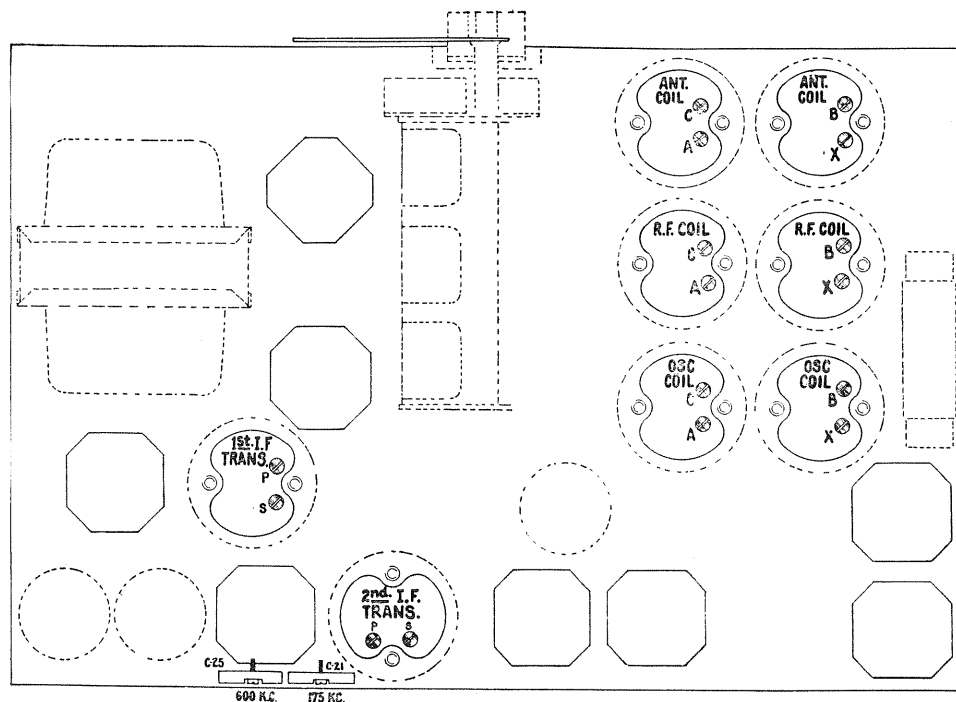

Figure 8—Location of Trimmer Capacitors
- (c) Refer to Figure 8. Adjust each trimmer of the I. F. transformers until maximum output is obtained. Go over the adjustments a second time.
Figure 8 shows the location of the trimmers for each band. Care must be exercised to only adjust the trimmers in the band under test.
mer, marked 175 K.C. on Figure 8, for maximum output, at the same time rocking the variable tuning capacitor. Then readjust at 410 K.C. as described in (b).
- Shift the external oscillator frequency to 600 K.C. Tune in the 600 K.C. signal, irrespective of scale calibration, and adjust the series trimmers, marked 600 K.C., Figure 8, for maximum output, at the same time rocking the variable tuning capacitor. Then readjust at 1,720 K.C. as described in (b).